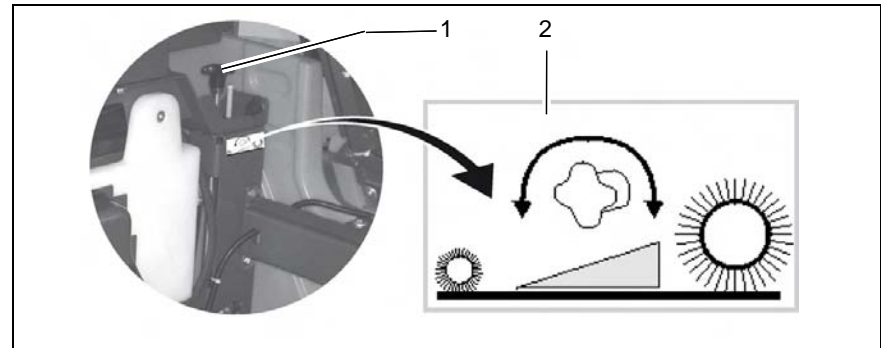

Fig.16
The sweeping track width can be adjusted at the star-shaped knob (Fig. 16/1) as follows:
- Turn star-shaped knob (Fig. 16/1) to the left = wider sweeping track
to the right = smaller sweeping track (Sweeper adjustment sticker (Fig. 16/2))